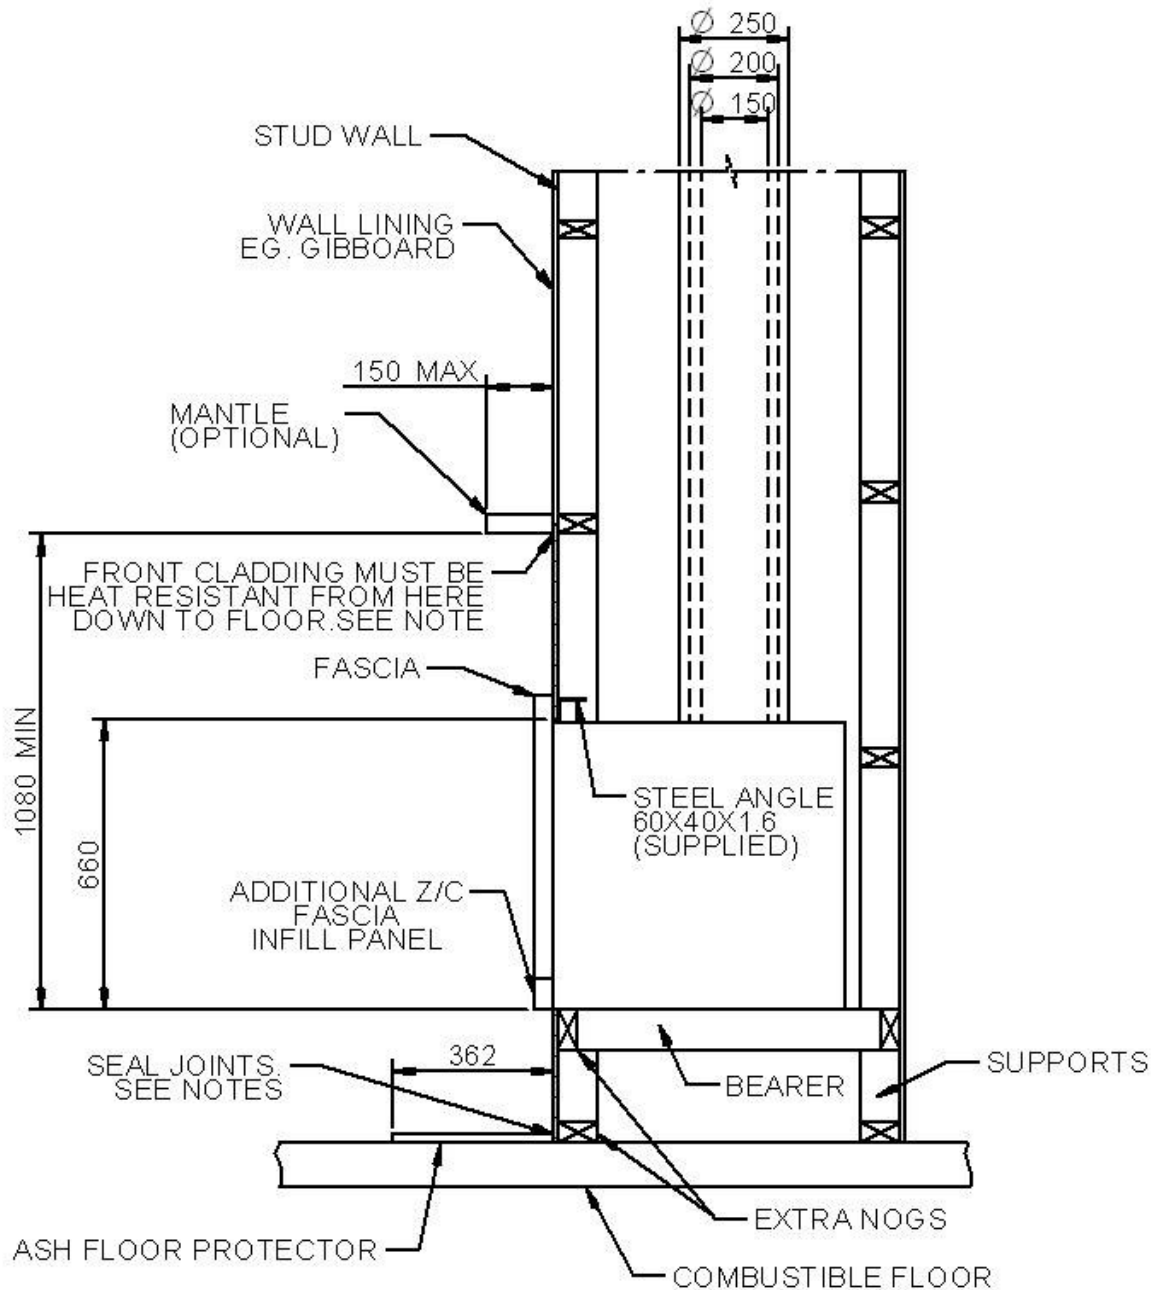

Fig. 8
5. For an **'elevated' installation** (See Fig. 8), fix two extra noggins (90x45x802) across the front opening of the enclosure, one at the bottom and the other at the desired 'elevation' height. These extra nogs will carry the front cladding below the heater. Fix two 90x45 bearers running from front to back behind the top extra noggins, positioned 240mm each side of the enclosure centerline to provide support for the shielding box rails. The bearer tops must be flush with the top of the top extra nog. Provide a suitable support at the rear ends of the bearers to carry the weight of the appliance. The shielding box can sit directly on the bearers. No insulation is necessary. The usual three noggins may be fixed at each side of the enclosure. At the front, the lowest wooden nog 'N' must have its lower face at least 1080mm above the top of the floor protector (or 1080mm above the bearers for an elevated installation). Further wooden nogs can be fitted above this one.